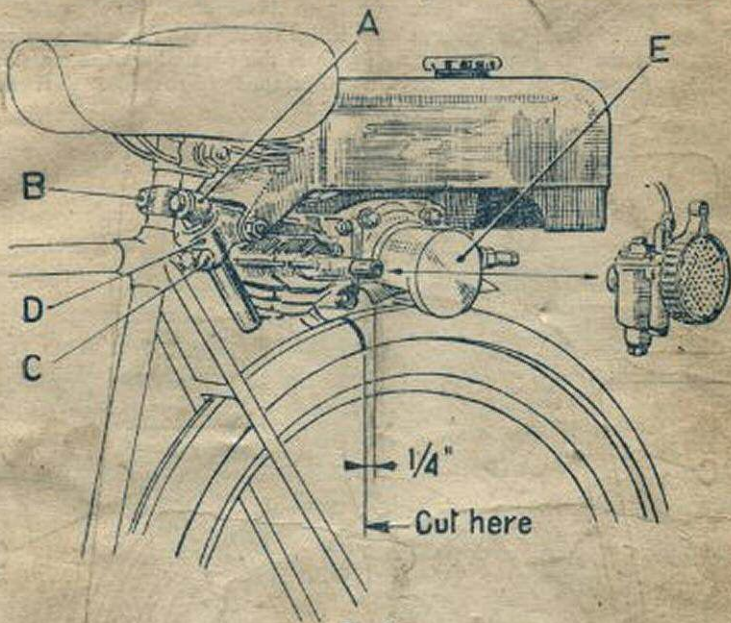

Fig. 2
- (1) Rest the unit on the rear mudguard (if there is a carrier or other fitment over the rear wheel this must first be removed). Fasten the elbow lug "A" on to the saddle pillar as low as possible, but do not completely tighten the clamp bolts "B" (Fig. 2).
mudguard to swing backward, leaving a space between the two ends. (Fig. 2.)